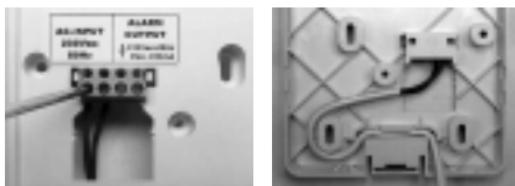

Figure 4. Electrical wiring connections.
The detector must be connected directly and permanently to the 230 V mains supply, by connecting the mains cable to the terminal block on the base, to the **two left-hand screws of the terminal block** marked "AC-INPUT 230V" (See Figure 4), leaving the other 2, marked "ALARM OUTPUT", for the connection of a 230V shut-off valve.
- 1.-** Connect the power cable supplied to the terminal block. (See Figure 4)